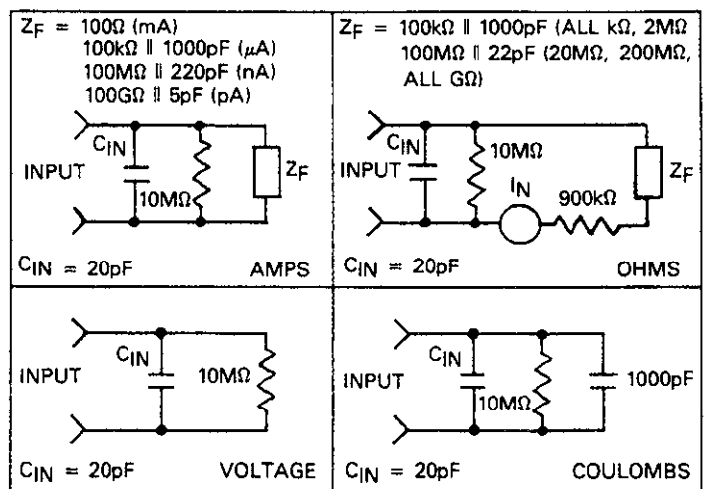

Figure 2-21. Equivalent Input Impedance with Zero Check Enabled
1. With the zero correct mode off, press the ZERO CHECK button. Be sure ZERO CHECK light is on. In this mode, the input signal is disconnected from the input amplifier and the input circuit is configured as shown in Figure 2-21. The internal preamplifier is configured to measure its own offset when zero check is enabled.